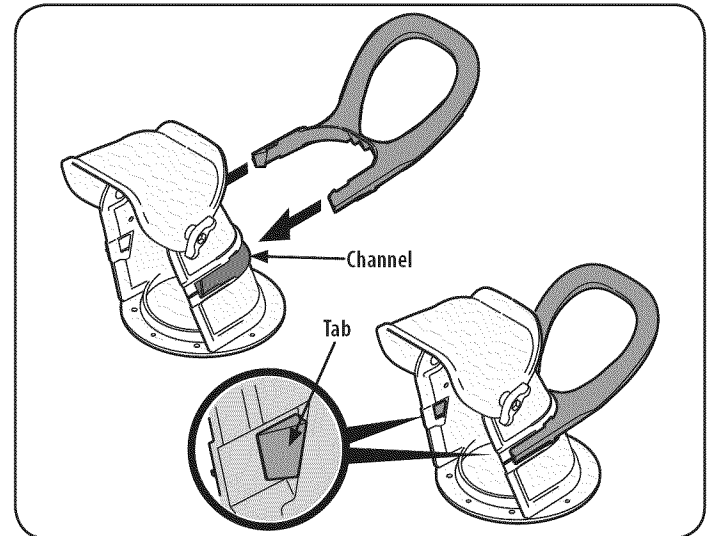

Figure 3
1. Place the chute handle on the lower chute as shown in Figure 3. Be certain that the handle is aligned in the channel on the chute and the tabs snap into place.